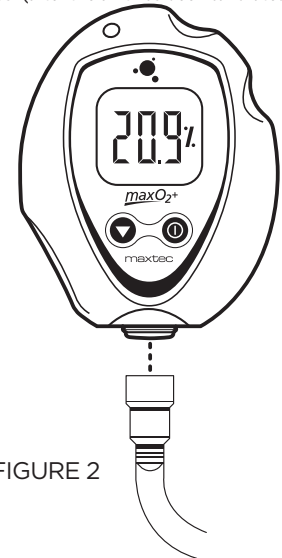

FIGURE 2
1. Connect the Tygon tubing to the bottom of the analyzer by threading the barbed adapter onto the oxygen sensor. (FIGURE 2)
2. Connect the Tygon tube to the barbed adapter. (FIGURE 2)